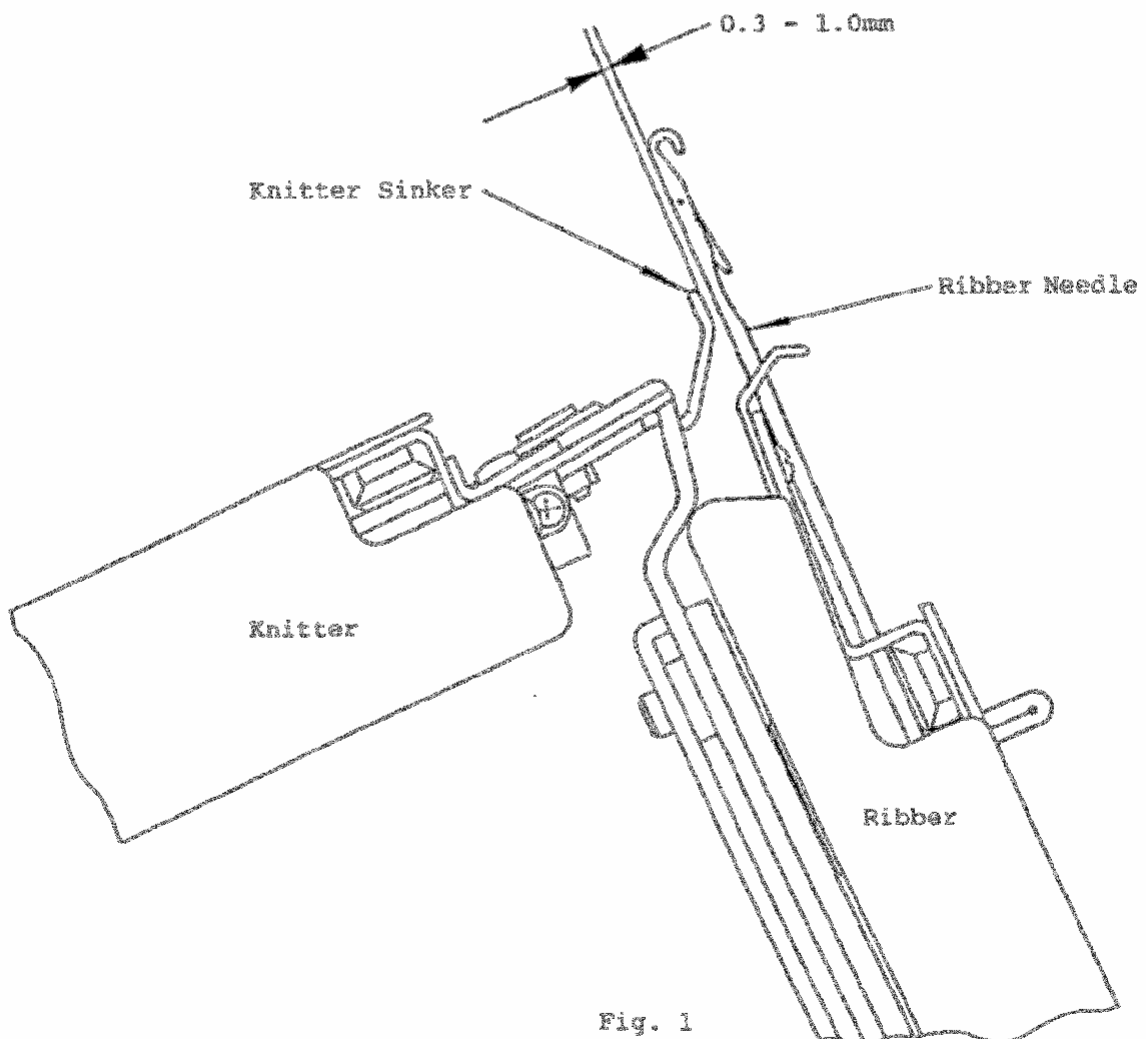

Fig. 1
- c) Push up five needles on both sides of the Ribber Needle Bed between 91 and 95 into D position. Measure using a feeler gauge the clearance between the Ribber Needle and the Knitter Sinker Posts as shown in Fig. 1. The measurement should be within 0.3 - 1.0mm.